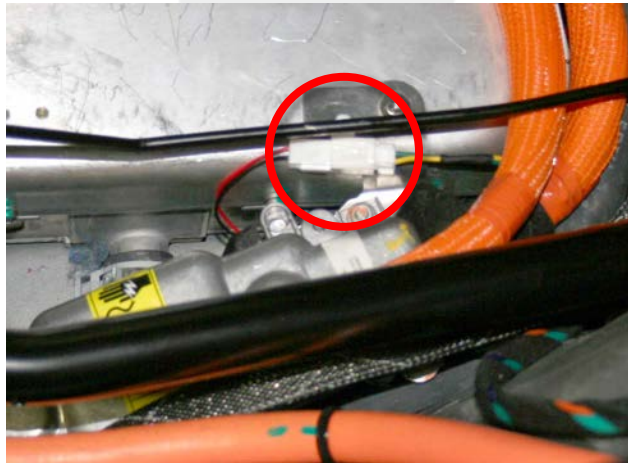

Figure 2 (Shown with seat frame installed)
2. Disconnect the HVIL connector (Figure 2).
11. Reconnect the HVIL connector (Figure 2).